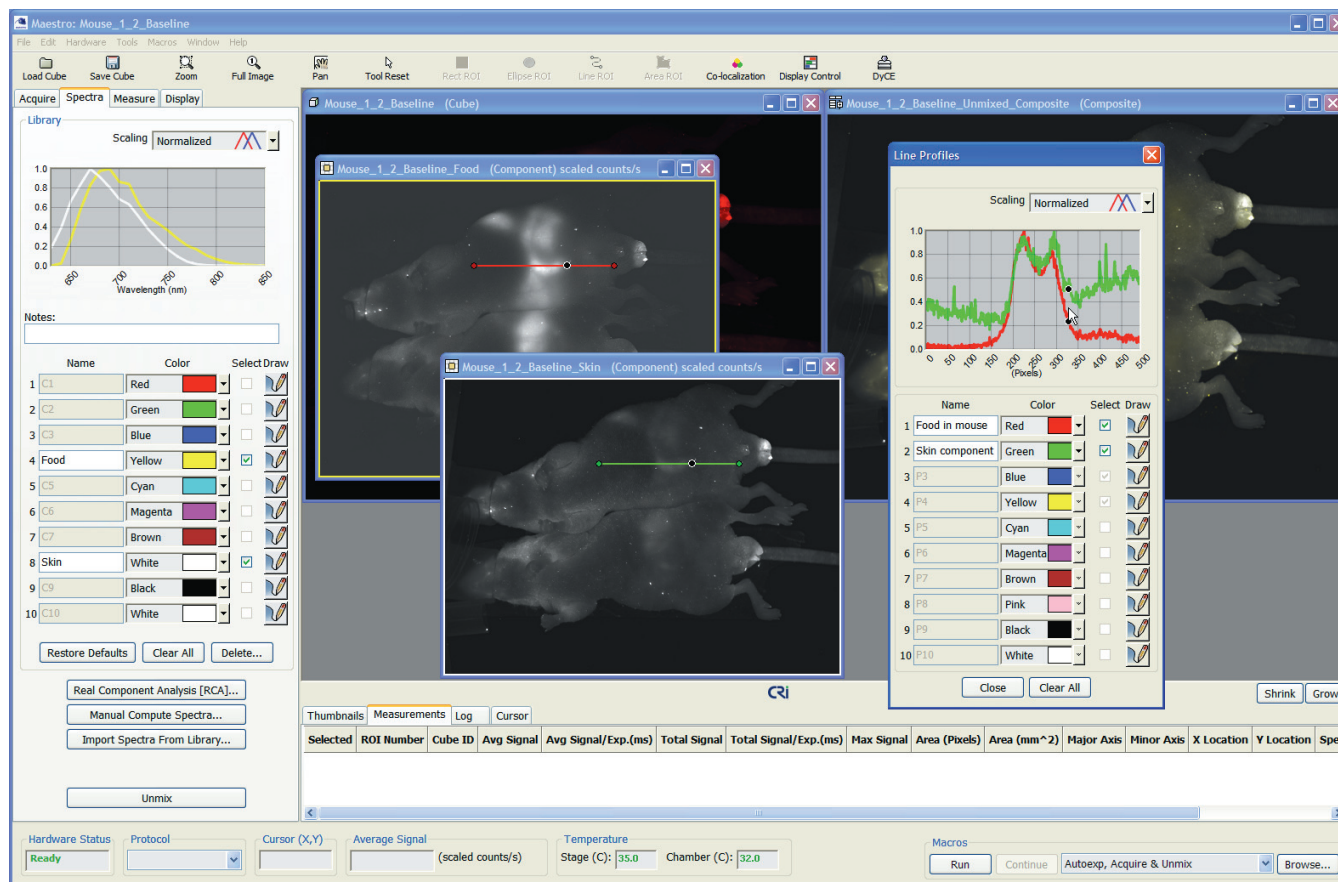

Figure 51. Line Profiles drawn on component images
- Figure 51 shows two profile lines drawn on two different component images of the same mouse, illustrating the usefulness of the line profile tool.